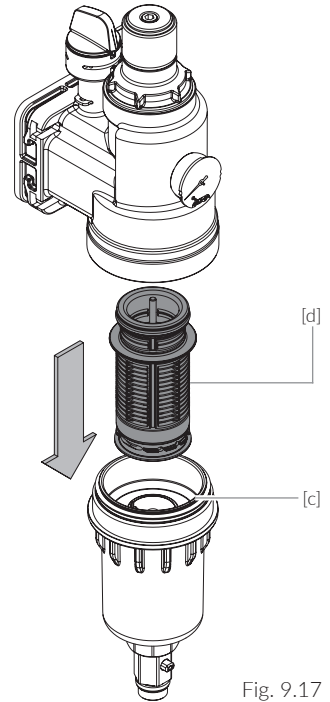

Fig. 9.17
- / Fig. 9.17: With the filter cup [c], the ball valve, the disc and the cylindrical pressure spring loosen